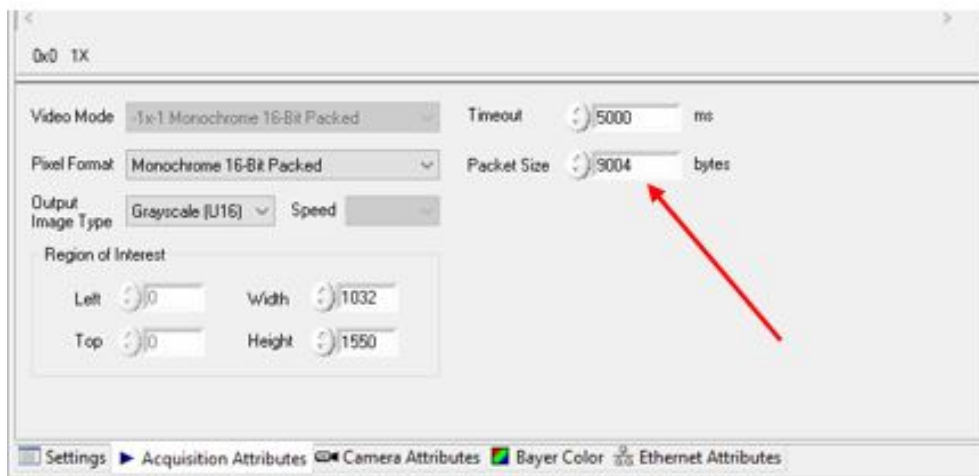

Figure 53. Acquisition Attributes window. Set the packet size to 9004.
4. Set the values as shown in Figure 53.